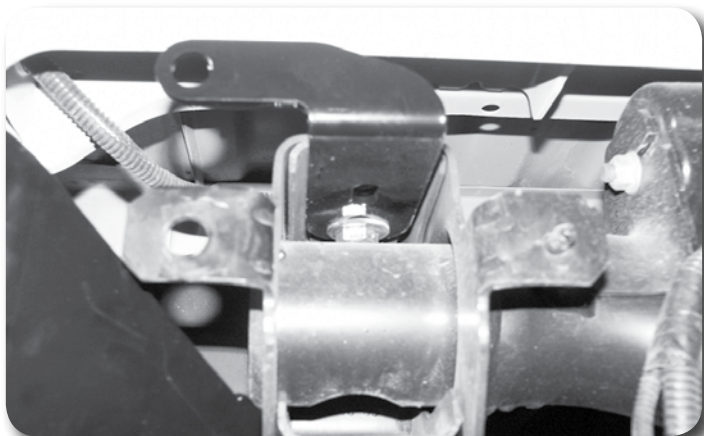

Figure 32
88. With the rear dampener repositioned, install the new rear bed mounting bolts 12mm x 120mm and 7/16" USS washers (BP #235) with the new upper rear bumper brackets (pictured). The brackets mount inside the frame rail with the bed mounting bolt so that the tab goes up and to the outside of the vehicle **Figure 32**. Leave bolt loose.